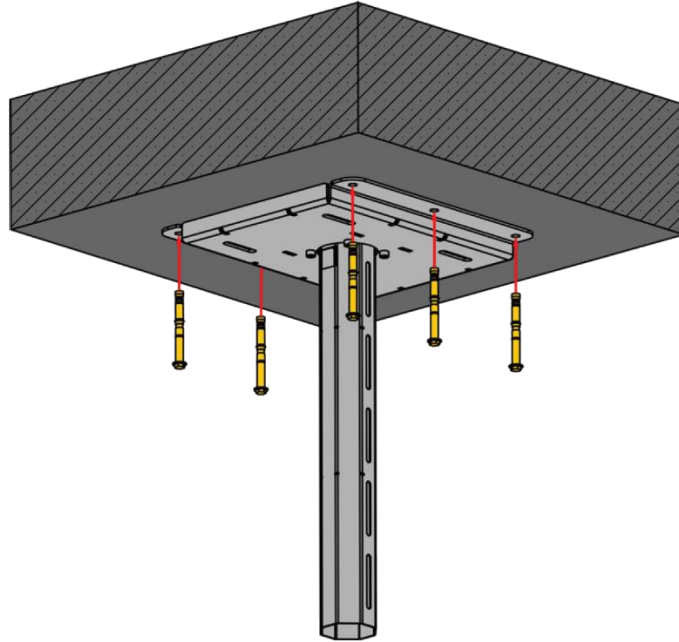

Figure 80: Step 3A-1
1. Fasten the ceiling plate ① with upper tube ② by using the anchor bolts ⑪ (6 pcs.), as shown in **Figure 80**.